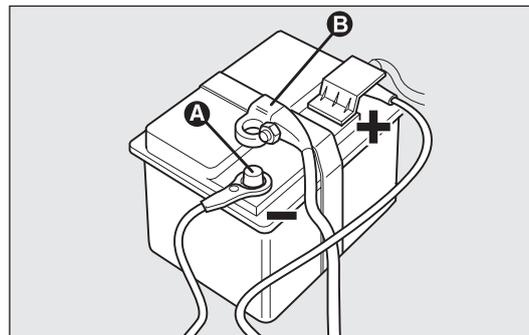

fig. 190
## VERSIONS WITHOUT Start&Stop SYSTEM fig. 190
- disconnect terminal B-fig. 190 from negative battery pole A;